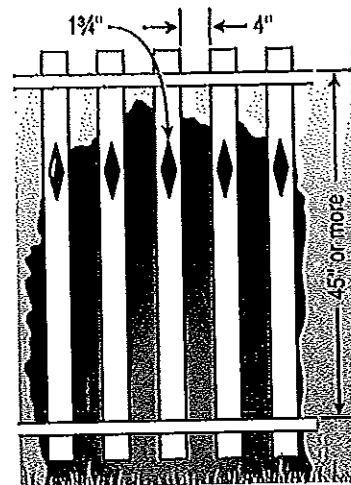

Figure 4
7. Spacing between vertical members should not exceed 1¾ inches in width. Where there are decorative cutouts, spacing within the cutouts should not exceed 1¾ inches in width (figure 4).